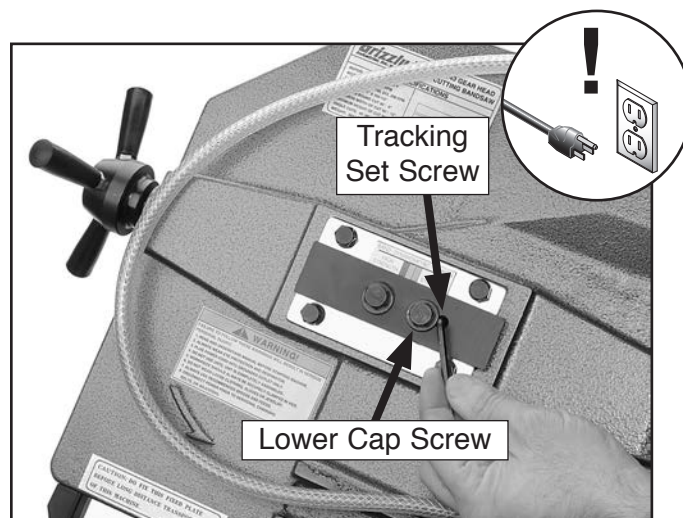

Figure 31. Adjusting tracking set screw.
5. Loosen, but do not remove the lower cap screw in the blade wheel tilting mechanism (**Figure 31**).
7. Adjust the tracking set screw with a 4mm hex wrench as shown in **Figure 31**, then tighten the cap screw loosened in **Step 4**.